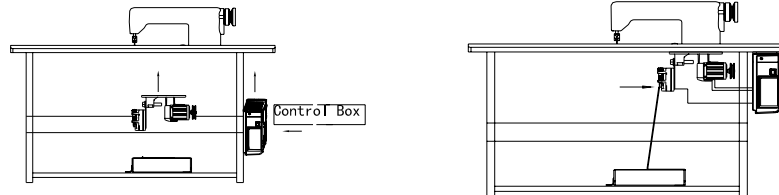

Fig.2-2
**Step 2: Install the motor** (see Fig.2-2) and then tighten the lifting bracket.